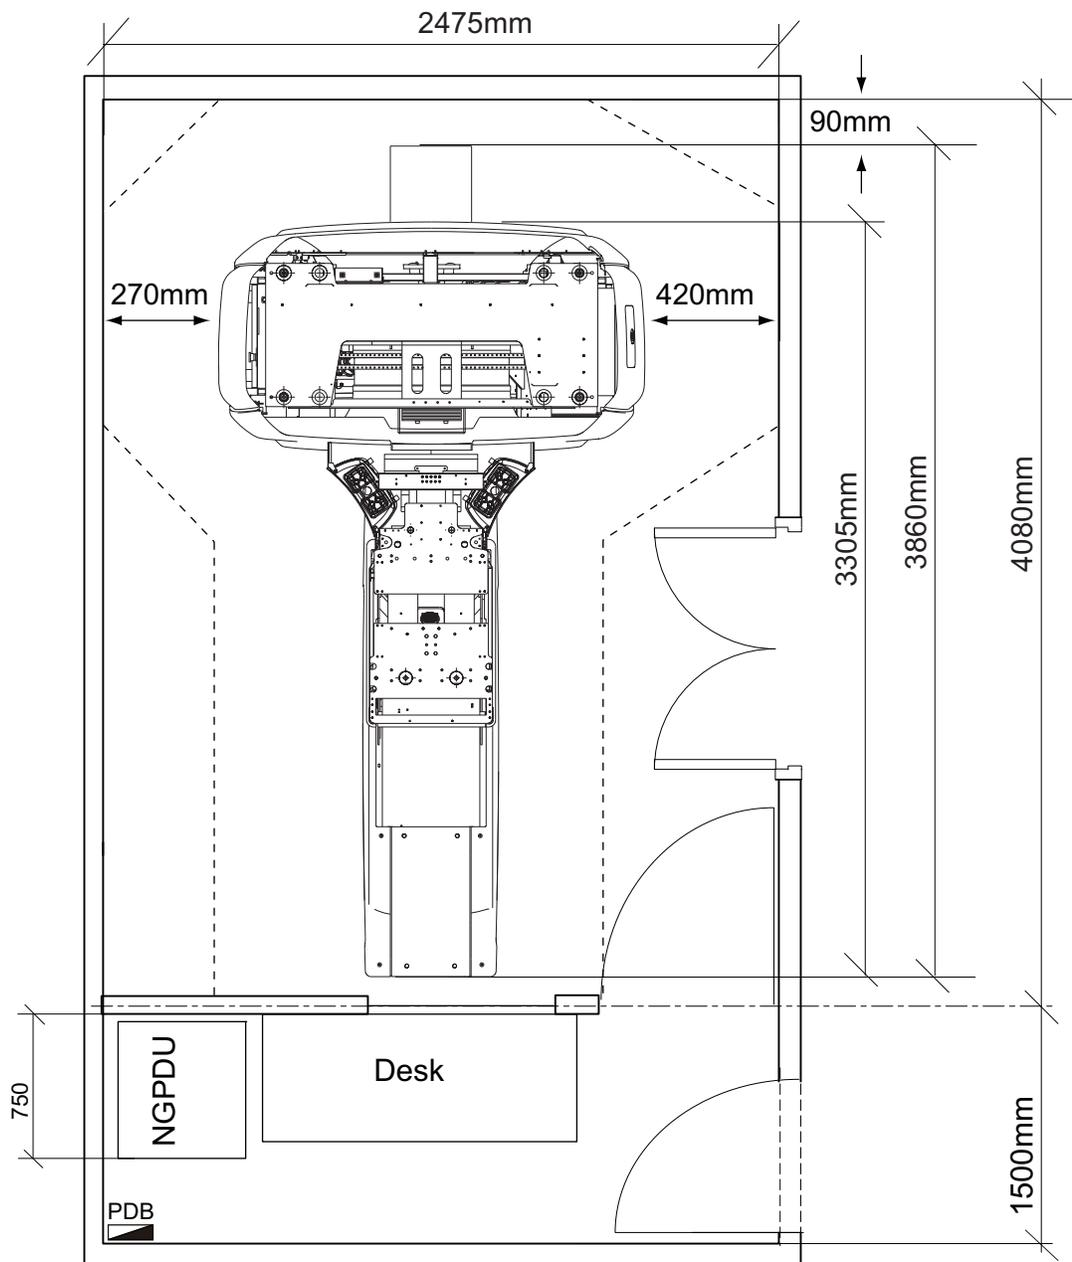
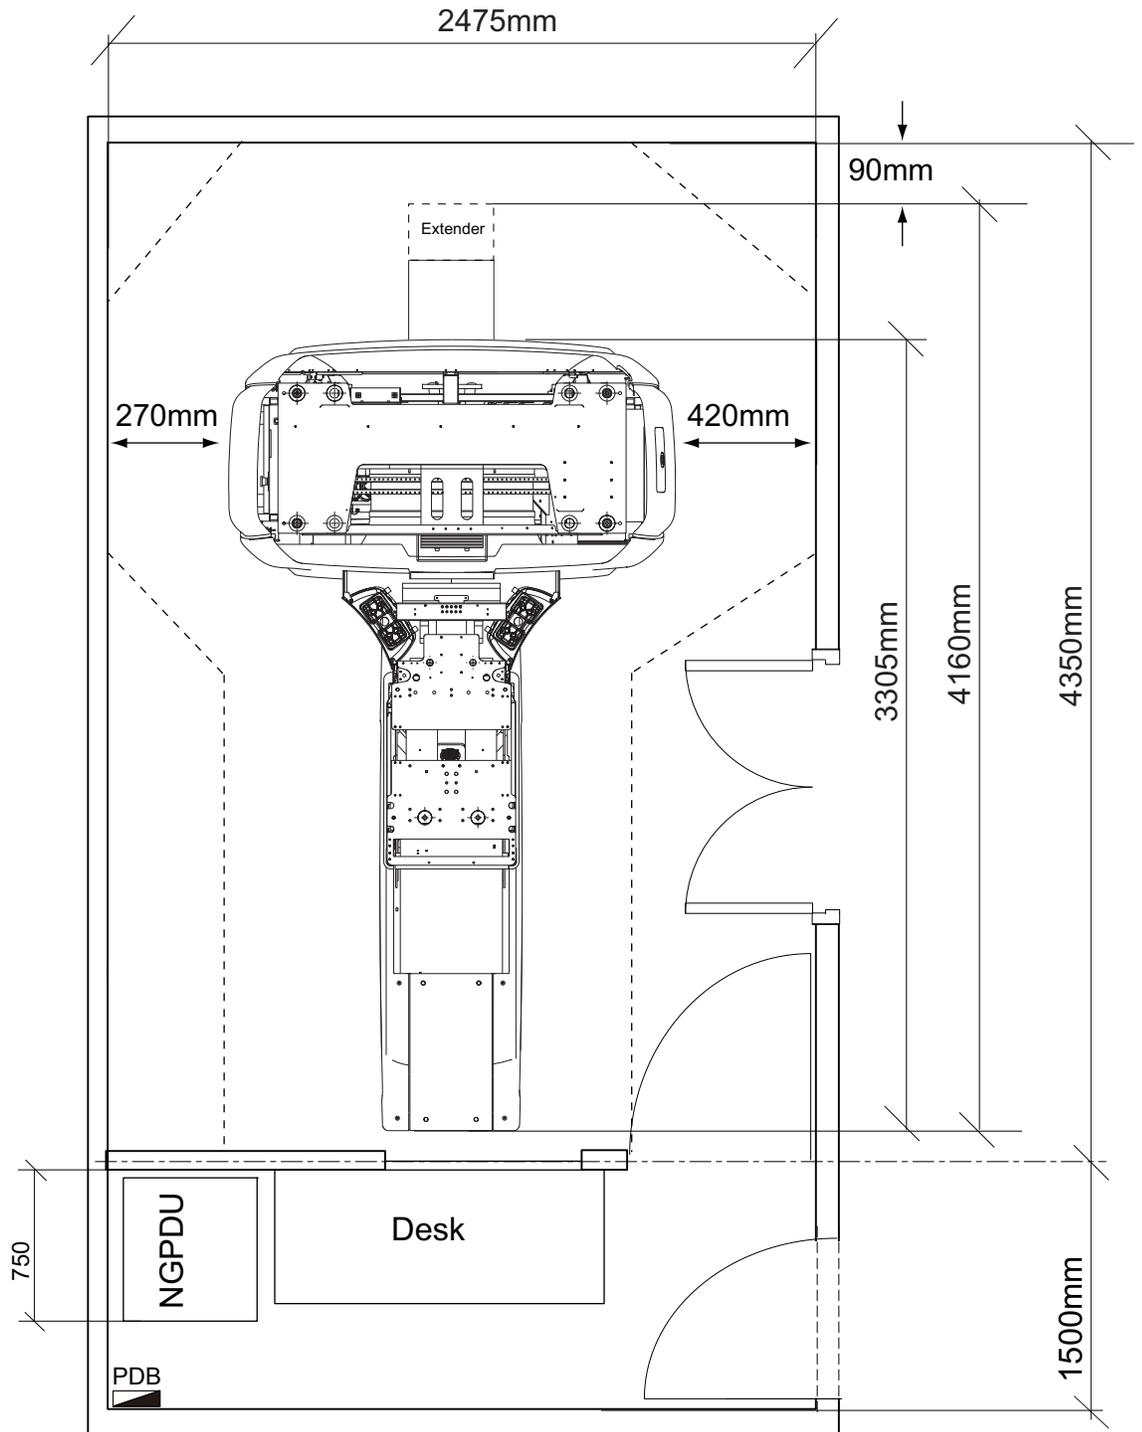

Figure 6-2 Minimum Room Size for Brivo CT385 Series without Extender
Figure 6-3 Minimum Room Size for Brivo CT385 Series with Extender (for extender was purchased by customer)
If customer purchase cradle extender or plug-in style head holder, refer to Figure 6-3 for minimum scan room size.
The minimum scan room size without extender (Figure 6-2) can satisfy 1100mm scan range, and the minimum scan room size with extender (Figure 6-3) can satisfy 1350mm scan range.
- GE's desk may not fit into the minimum control room shown as below figure Figure 6-2.